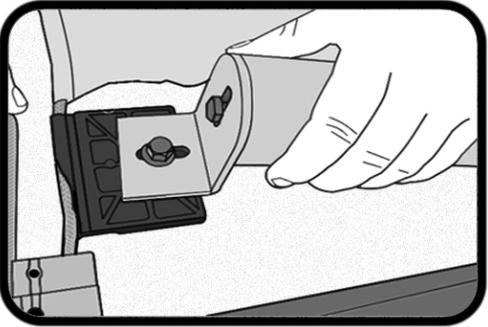

Fig. 5
**Step 5:** Pull about one foot of slack rope. This will give you the rope length needed to remove the broken Slider. Hold the Leading Edge and pull the broken Slider away from the Track. **(Fig. 5)** Release the Slider from the Rope.